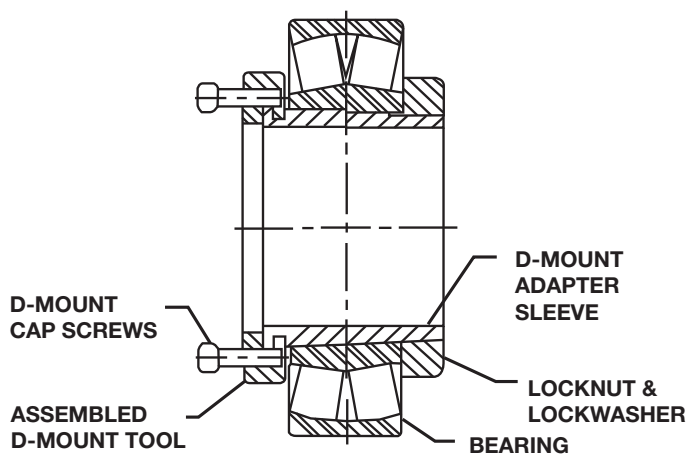

Figure 1
4. Remove socket head cap screws (1) from the D-Mount tool to separate the two halves.
5. Wrap the two halves (2) around the grooved back side of the adapter, stamped side away from bearing. Prior to wrapping around adapter, make sure cap screws are backed off flush with the unstamped side (Figure 1).
6. Reinstall the two socket head cap screws (1) to join the two halves securely. Torque cap screws per Table 1.
7. Using the Hex Key supplied with the D-Mount tool, screw in the face mounted socket head cap screws (3) until all just contact the face of the bearing inner ring.